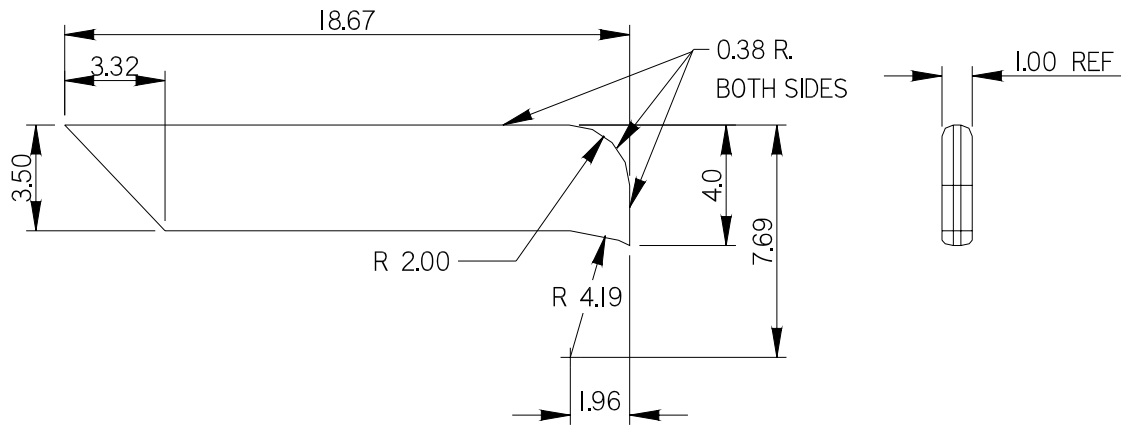

FIG.1
1. The blower needs to be further protected with the addition of a deflector plate which is welded to the top drive guard. The deflector plate should be constructed as shown in Fig.1. Ensure that the edges shown are well rounded to prevent tugger lines from getting caught on it.